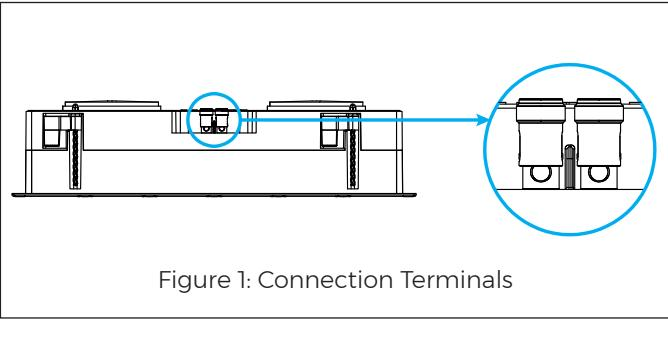

Figure 1: Connection Terminals
Leave the Sonance VX LCR speaker module Flex Frame latches in the LOCKED position as supplied out of the box. This will ensure that your VX speaker remains a single piece for the one-stage installation process. The Flex Frame latches are in the locked position when clicked parallel with the longest edges of the speaker (see Figure 1).
2. The speaker's connector posts are spring-loaded. Push the top of each connector post down to open the connector and insert the exposed wires into the holes in the posts. The speaker terminals are located on the back, in the top, center of the speaker (see Figure 1).